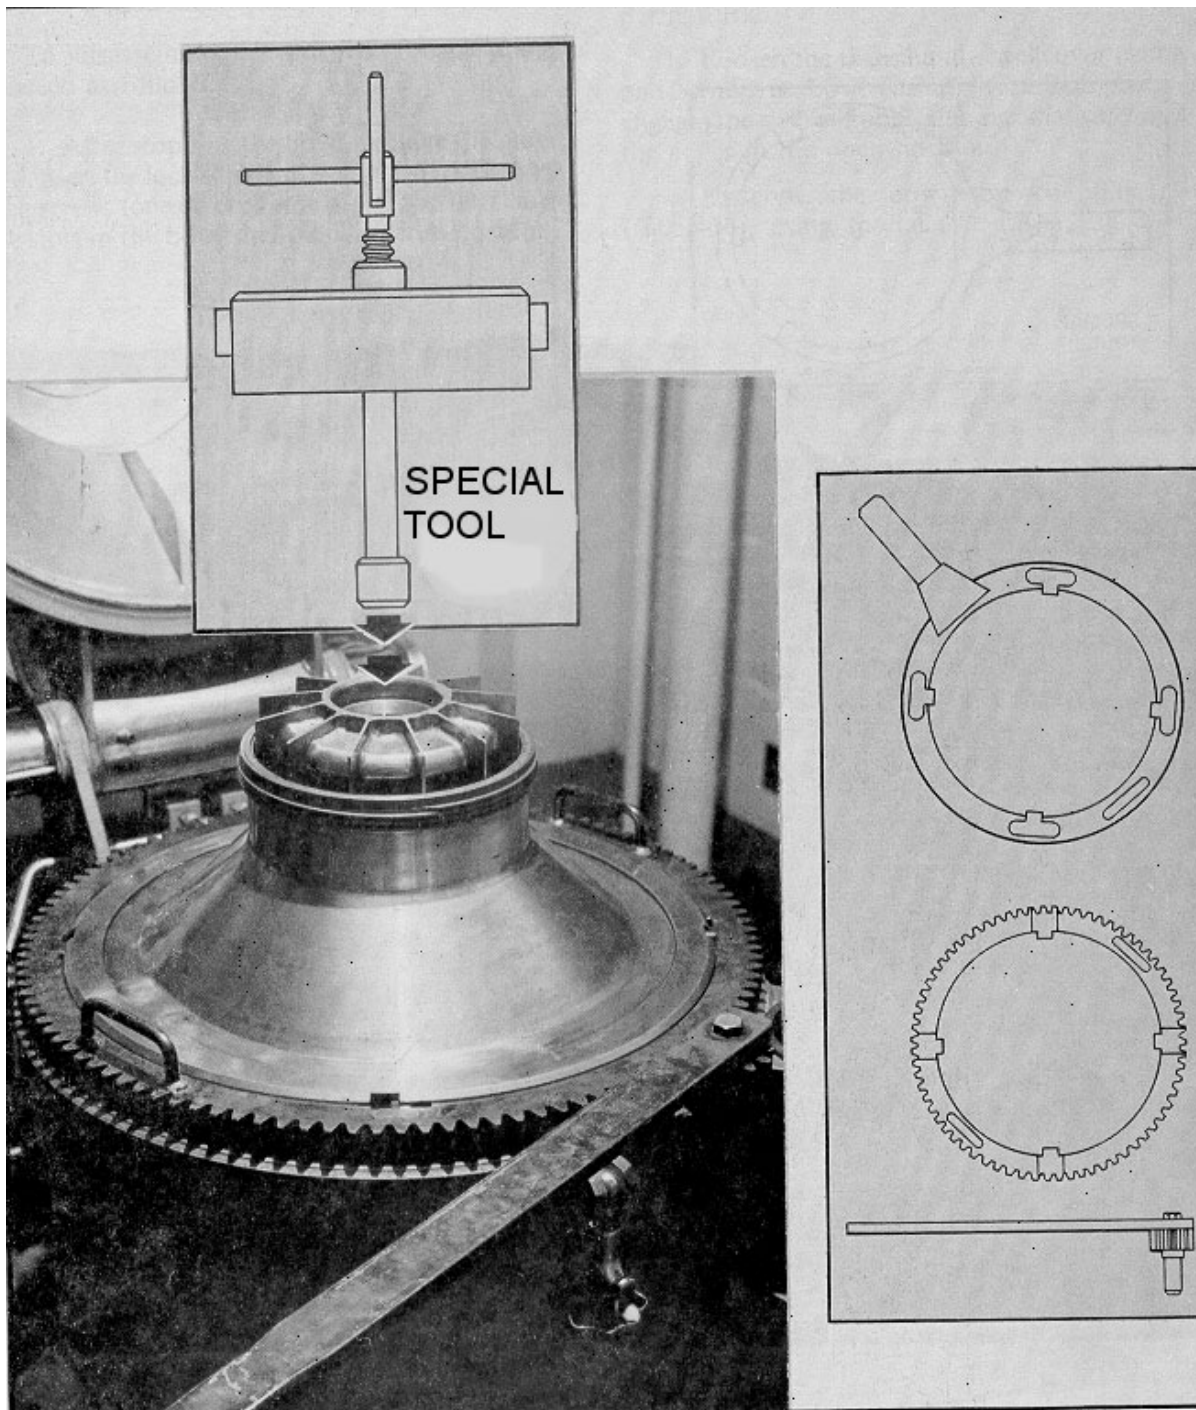

Figure 2-58.—Removing coupling ring (with special tool).
5. Remove the coupling ring (fig. 2-58) by loosening it first with the gear wrench, then unscrewing the coupling ring with the special tool.
a. Place coupling ring manual wrench (fig. 2-58) on coupling ring.